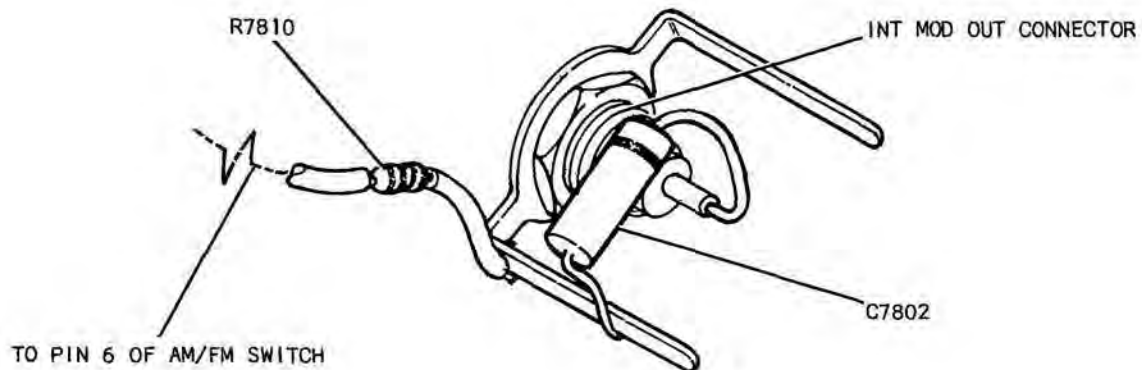

Figure 6-11 INT MOD OUT Connector Installation
E. INT. MOD. OUT Connector (8) by attaching:
1. Connector (8) at front of panel (72); lock washer and hex nut at rear of panel (72).
2. Ensure that connector is installed as shown in Figure 6-11 before soldering wires.